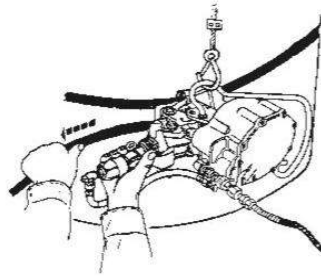

图6 (Fig6)
5.如需立式捆扎物体，可按图6所示操作。
If bundle the package vertically, operate the tool according to Fig.6.